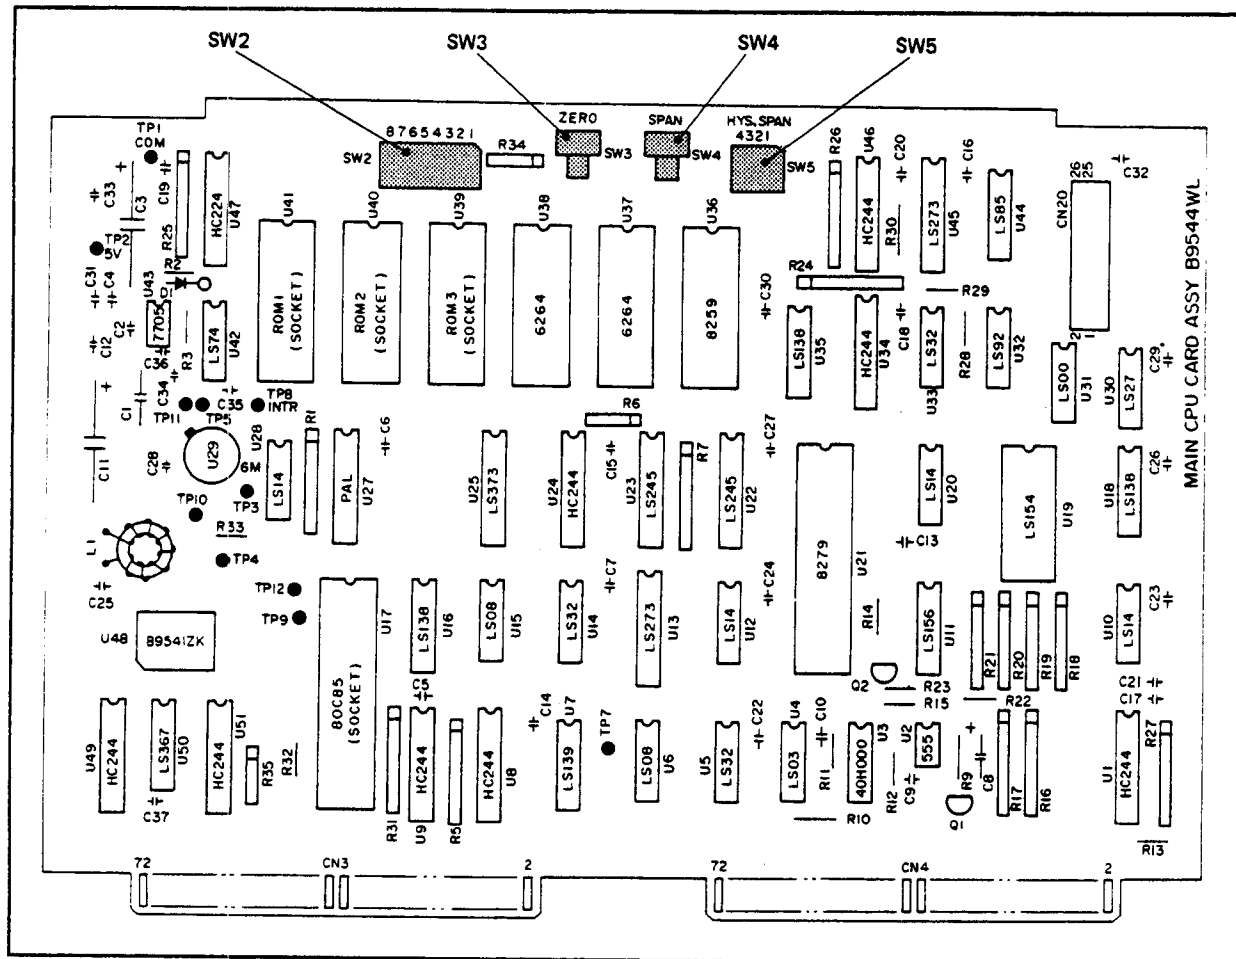

Figure 11-1. Main CPU Card Ass'y: B9544WL.
- 1) Set switch SW2 on the Main CPU Card Ass'y shown in Figure 11-1 as per Table 11-1 "Recording Hysteresis" adjustment mode.
- 3) Adjust the HYS, SPAN adjustment switch SW5-③ and ④ on the Main CPU Card so that the hysteresis width of this back and forth dot printing is 0.1 mm or less.
(4) Recording Zero Adjustment
- 3) Adjust the ZERO adjustment switch SW3 on the Main CPU Card shown in Figure 11-1 so that this printed point coincides with 0% graduation on the chart.